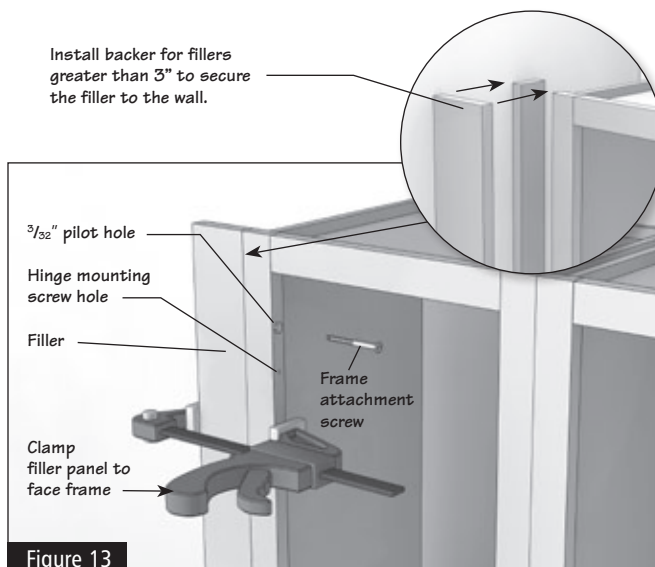

Figure 13
- 4.3** Fasten the filler to the cabinet with #8 x  $2\frac{1}{2}$ " frame attachment (trim head) screws. (Figure 13)